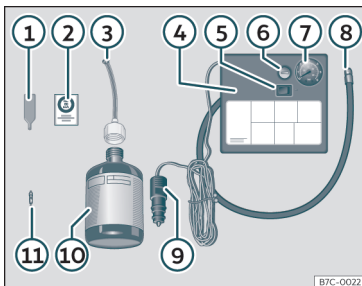

Fig. 57 Standard display: contents of the anti-puncture kit.
- Unscrew the tyre valve cap and insert. Use the >>> Fig. 57 ① tool to remove the insert. Place it on a clean surface.
- Shake the tyre sealant bottle vigorously >>> Fig. 57 ⑩.
- Screw the inflator tube >>> Fig. 57 ③ into the sealant bottle. The bottle's seal will break automatically.
- Remove the lid from the filling tube >>> Fig. 57 ③ and screw the open end of the tube into the tyre valve.
- Place the insert back into the tyre valve using the tool >>> Fig. 57 ①.
- Screw the compressor tyre inflator tube >>> Fig. 57 ⑧ into the tyre valve.
- Check that the air bleed screw is closed >>> Fig. 57 ⑥.
- Insert the connector >>> Fig. 57 ⑨ into the vehicle's 12-volt socket >>> page 149.
- Turn the air compressor on with the ON/OFF switch >>> Fig. 57 ⑤.